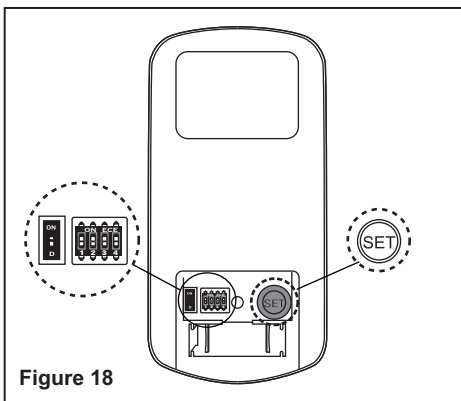

Figure 18
☾ button: Controls light. Switch the “D” and “ON” dip switch on the back of transmitter to decide the light in “ON/OFF” or “Dimmable” condition. (Fig. 18)
a) Select desired frequency from the transmitter. The dip switches can be set to 16 different combinations. (Fig. 18)
b) From the back of the transmitter, with the fan’s power off, restore power to the fan. Press and hold “SET” button for about 5 seconds and release. If optional light kit is installed, the light kit will flash twice and the signal light on the hand held transmitter will come on when the button is pressed. The fan has completed the pairing process with the remote control and is ready for use. (Fig. 18)